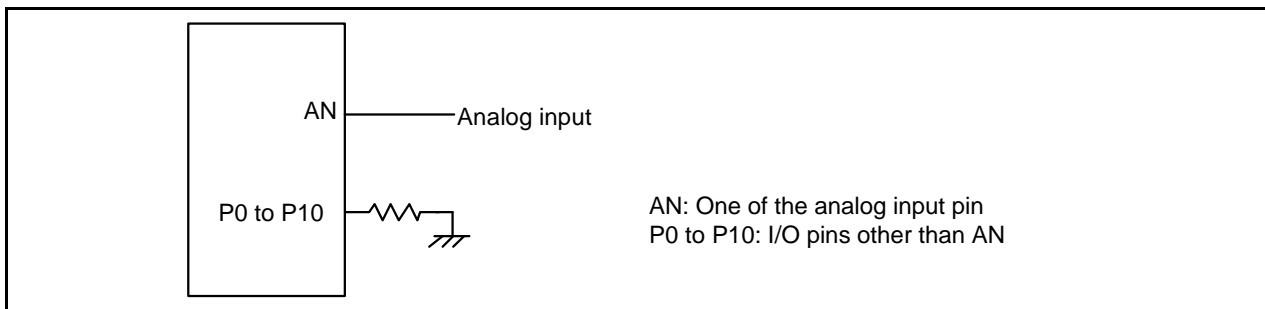

Figure 31.3 A/D Accuracy Measure Circuit
2. Flash memory rewrite disabled. Except for the analog input pin, set the pins to be measured as input ports and connect them to V_{SS} . See Figure 31.3 "A/D Accuracy Measure Circuit".
4. Flash memory rewrite disabled. Except for the analog input pin, set the pins to be measured as input ports and connect them to V_{SS} . See Figure 31.3 "A/D Accuracy Measure Circuit".